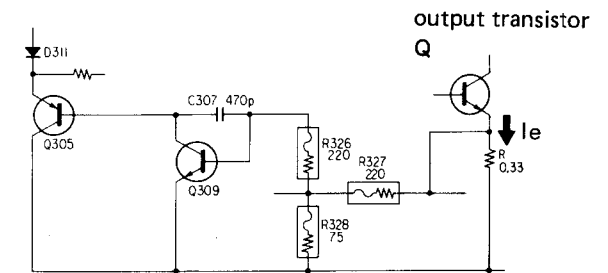

Figure 3
• Current Limiter (See Figure 3)